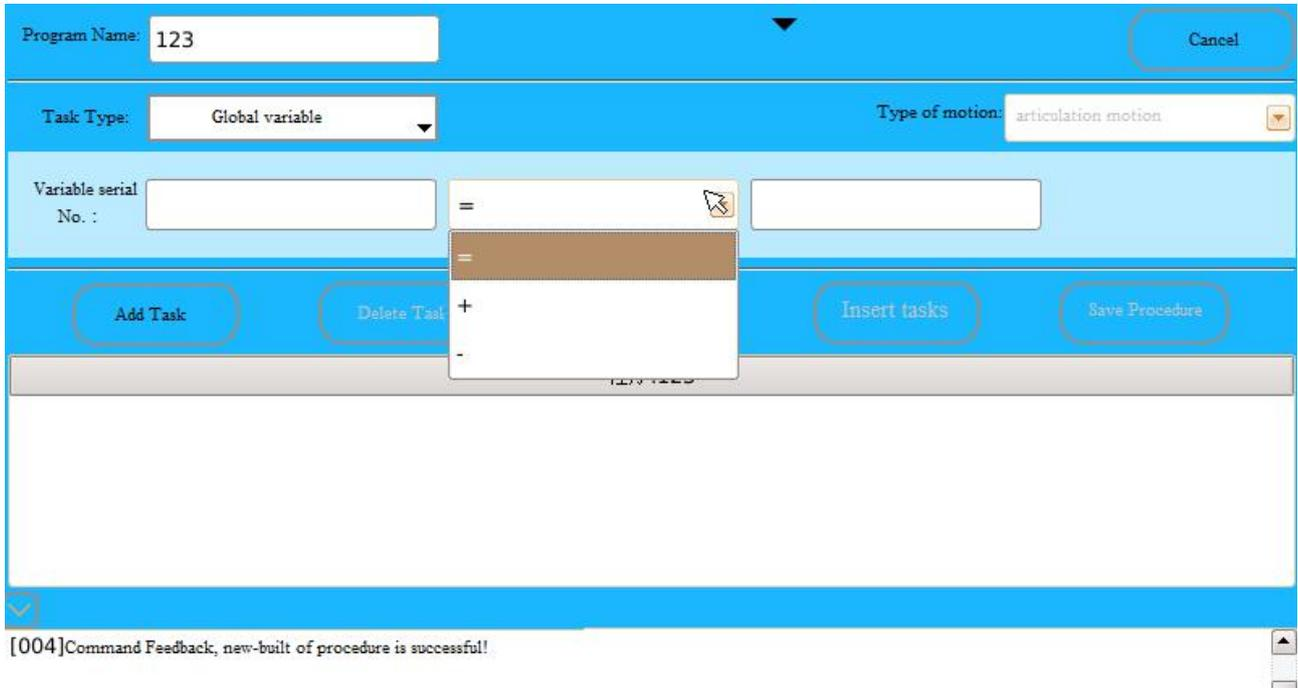

Fig. 4.6 “Global Variable” Task Types
(4) **“Global variable” task type** — The “Global variable” can be defined and assigned to and “Operation” for the “Global variable”, as shown in Fig. 4.6.